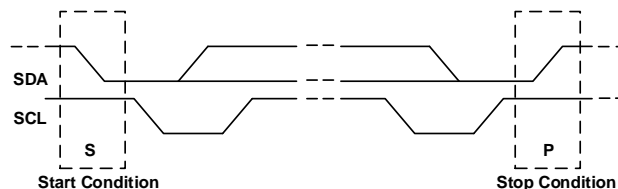

Figure 22: Start and Stop Conditions
The start (S) and stop (P) conditions are signaled by the master device, which signifies the beginning and the end of the I²C transfer. The start condition is defined as the SDA signal transitioning from high to low while the SCL line is high. The stop condition is defined as the SDA signal transitioning from low to high while the SCL line is high (see Figure 22).